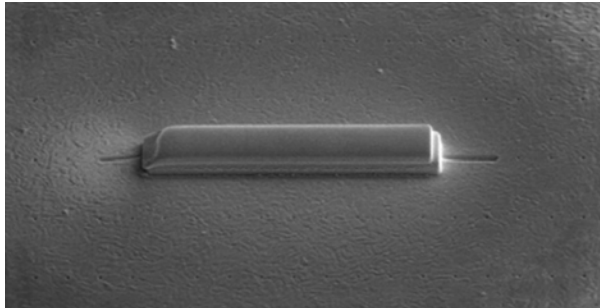

Figure 3a: The region of interest is protected using an electron beam and/or ion beam assisted deposited metal cap (in this case platinum).
The dual beam can be used to prepare site specific (S)TEM samples. (S)TEM is necessary to resolve sub-nm features and can be used to obtain atomic resolution images. Figure 3a-f show (S)TEM liftout sample preparation using a dual beam instrument.